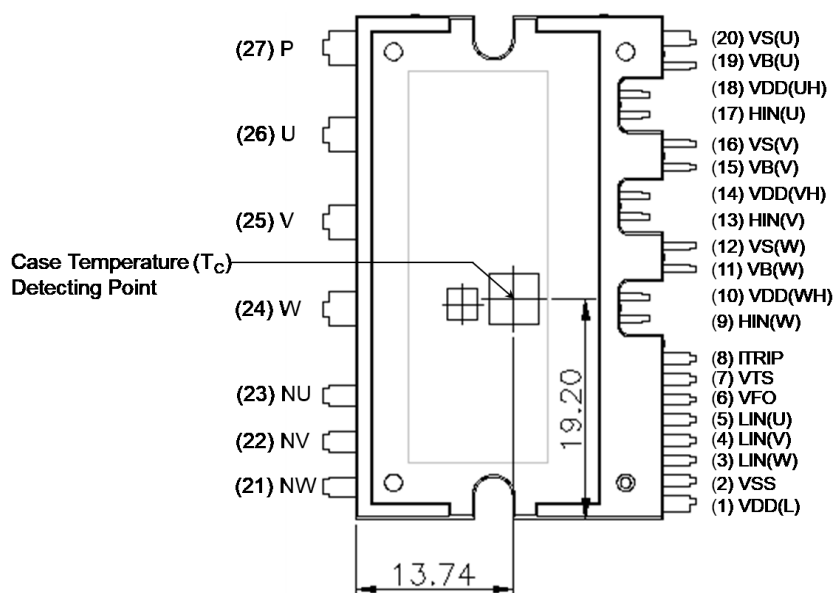

Figure 8. Case Temperature (T_c) Detecting Point
- For the measurement point of case temperature (T_c), please refer to Figure 8.